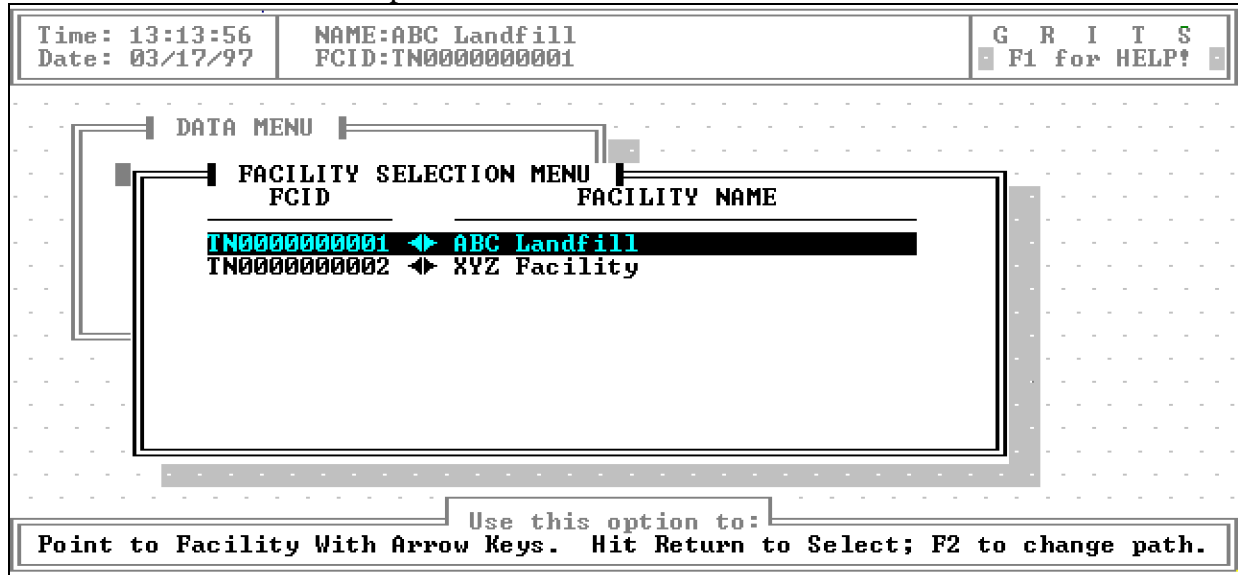

Figure 3-19. The FACILITY SELECTION MENU.
3. The FACILITY SELECTION MENU appears on your screen as shown in Figure 3-19. Use the up and down arrow keys to select the facility that you want to mark or unmark for deletion and press <Enter>.